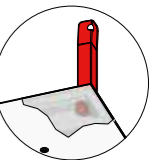

Fig. 2
Place the next panel into the correspondingly set adjustable brackets ② from above (Fig. 2). The second panel secures the stack, which can now be moved.